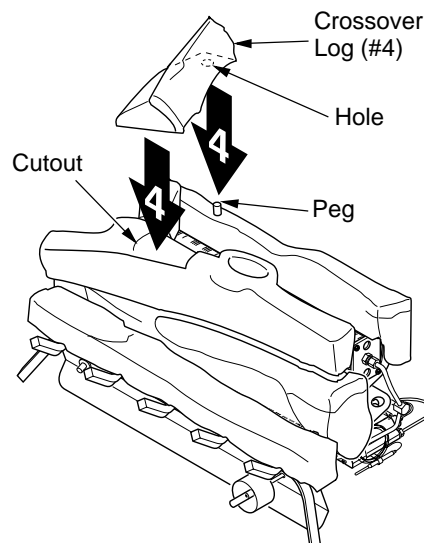

Figure 24 - Installing Crossover Log (#4) [18" Variable Manually-Controlled Set Shown]
4. Place the crossover log (#4) on the back log and the middle log. Make sure the peg on the rear log is in the hole in the bottom of the crossover log. The crossover log should fit in the cutout of the middle log (see Figure 24, page 15).